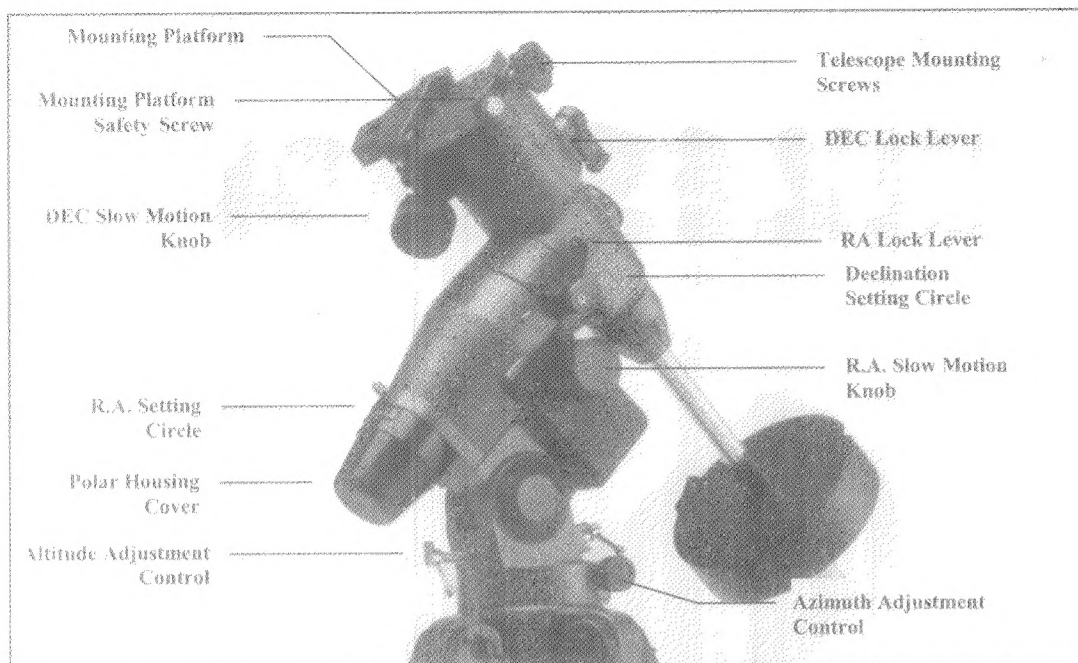

Figure 2-1 - The CG-5 Equatorial Mount
1. Locate the azimuth adjustment screws on the equatorial mount. See Figure 2-1.